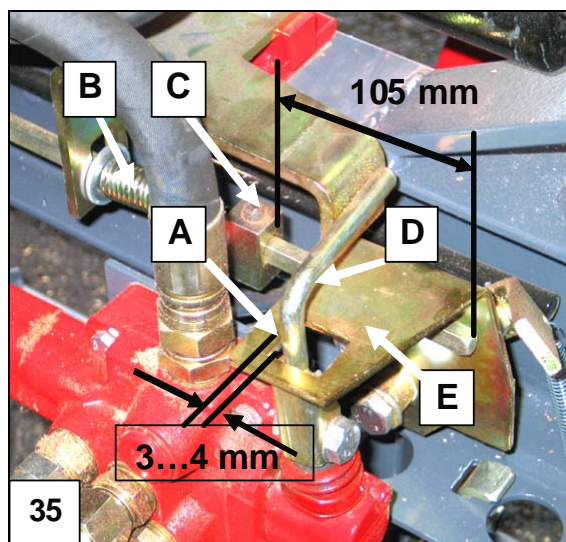

Fig. 35. Basic settings of the valve 1/2
7.13 Initial settings of the valve (Figures 35 and 36)
- ❑ If launch spring B (Figure 35) is replaced, adjustment part C must be installed in its original place.
2. Turn control lever E so much that clearance A (Figure 35) of about 3-4 mm is formed between the front edge of the square hole and launch rod D.